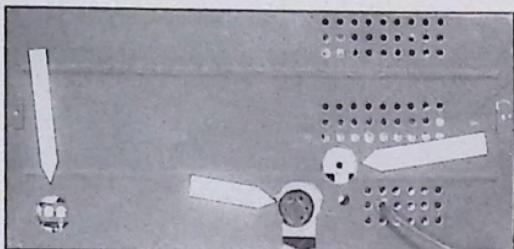

Fig. 11-2 — A rear view of the BC-348-Q with the case replaced, showing clearance holes cut in the case.
Beginning with the antenna terminals and working through the set to the output transformer, the first addition was an auxiliary set of "Ant.-Gnd." terminals placed at the rear of the chassis. A terminal strip was bolted to the frame of the set at the rear, as shown in the photograph of Fig. 11-8, and a wire was brought from the "Ant." terminal on the panel along the lateral side of the antenna unit (190) to it. The ground connection was made directly to the chassis via a small lug under the bolt holding the terminal strip. A  $1\frac{3}{16}$ -inch hole was cut in the cabinet to allow access to the new terminals (Fig. 11-2).